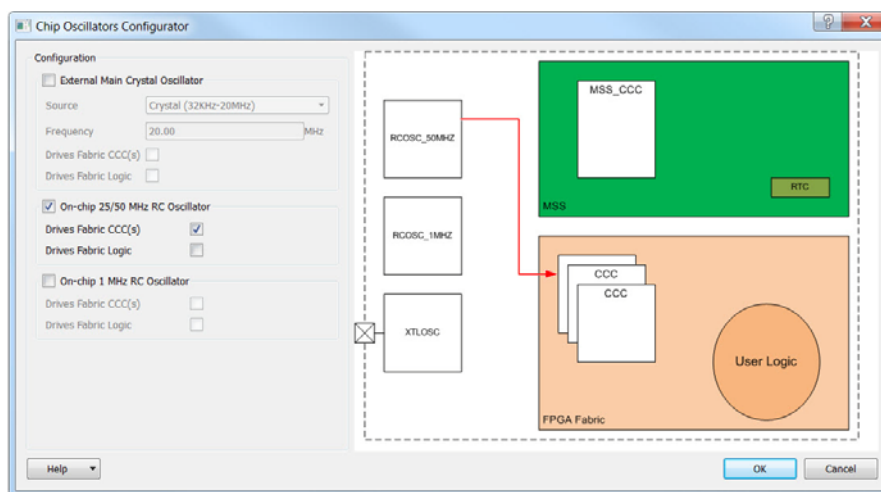

Figure 3-3 • Oscillator (OSC) Configurator
7. Check the **On-chip 25/50 MHz RC Oscillator** box and select **Drives Fabric CCC(s)** (Figure 3-3).